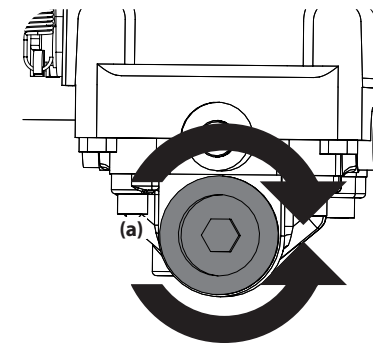

Figure 4-8
- Place a suitable container under the drain plug (a) on the transmission. Remove the drain plug (a) and allow the transmission oil to drain. See Figure 4-8.